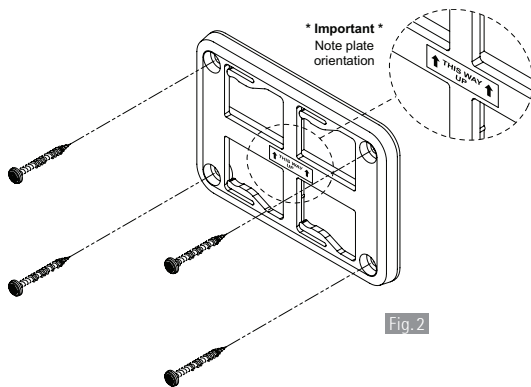

Fig. 2
1. Fix the mounting bracket to the wall with the screws provided (see figure 2).